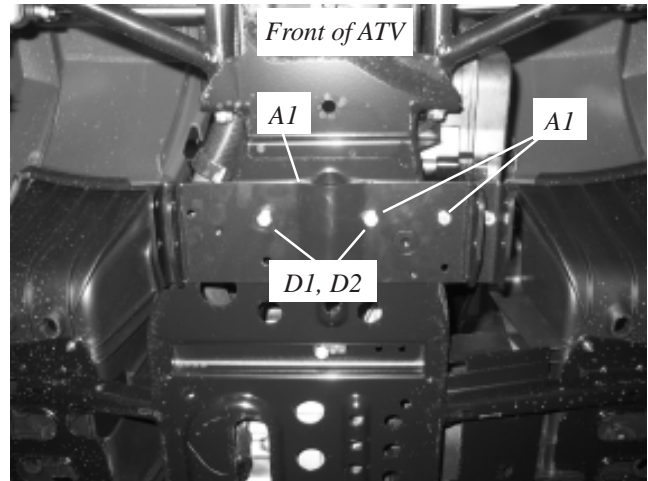

Figure 1
1. Bolt plow mounting plate and truss bracket frame using 2, 5/16 hex head bolts (D2); 2, 5/16 lock nuts (D1); 2 1/4-20x1 hex bolts (B2) and 2, 1/4-20 lock washers. See Figure 1 and 2.
Mounts bracket to frame using bolt indicated in Figure 1. This will allow for easier assembly of truss bracket (A2) to plow mounting bracket (A1).